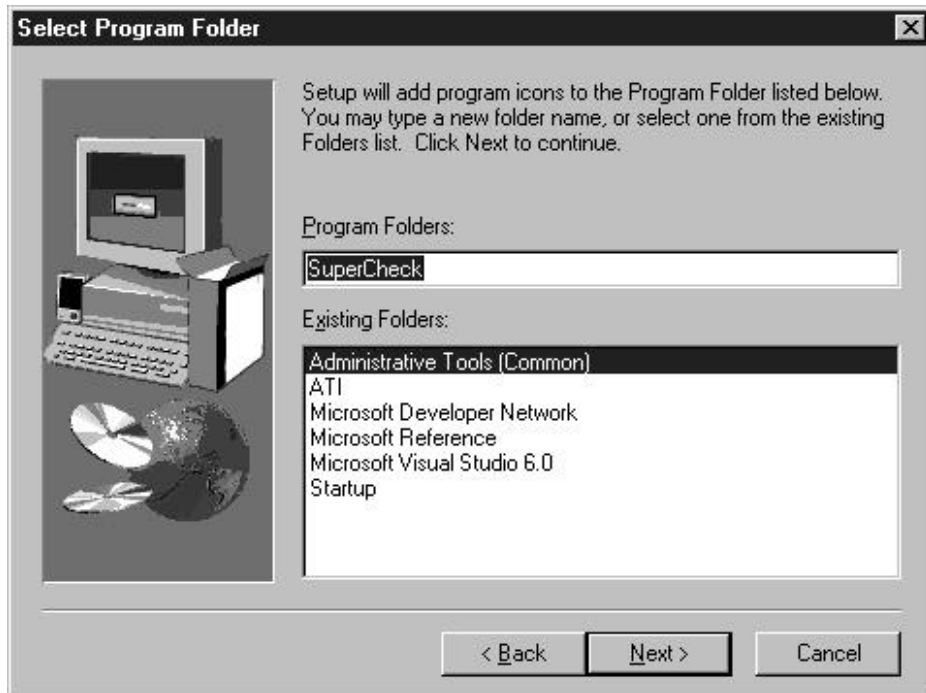

Figure 20: “Select Program Folder” window
- 8) The “Select Program Folder” window comes up next, shown in Figure 20 below. Choose a Start menu folder to list this item under by entering a folder name, and selecting a “parent” folder from the list under which this new folder’s contents will reside. Click the “Next” button to proceed.